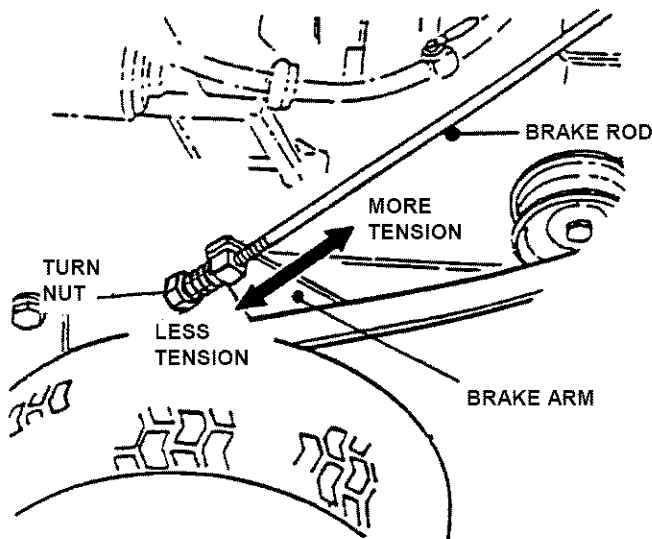

FIGURE 5.1
3. Turn nut clockwise to increase brake tension. See Figure 5.1.